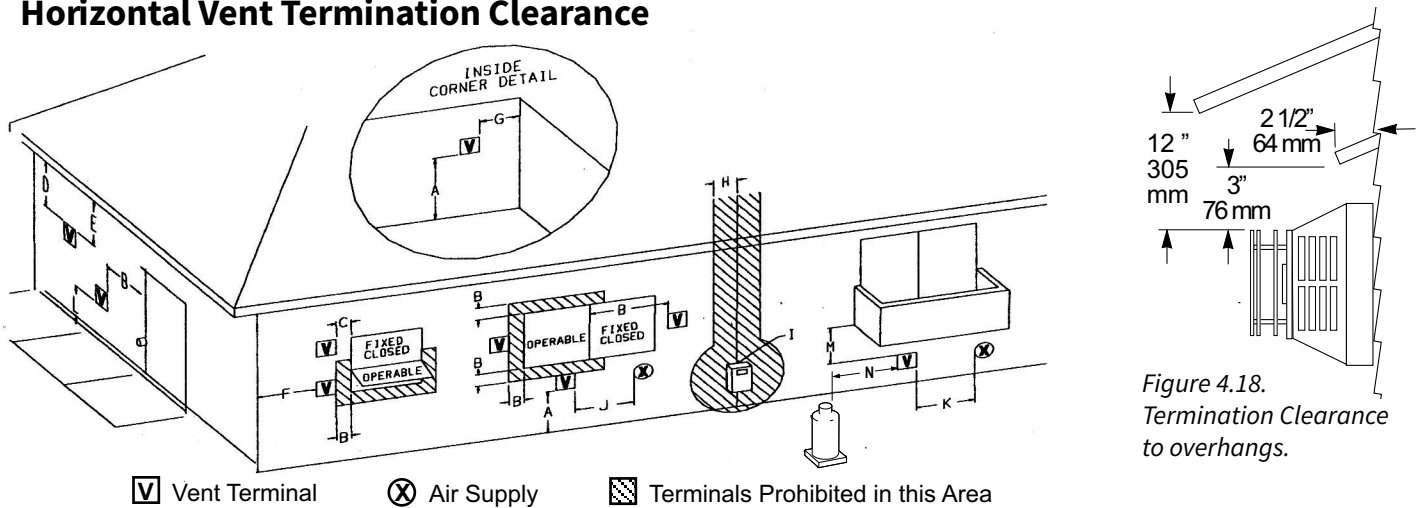

Figure 4.18.
- The horizontal termination cap must maintain a 3" clearance to any overhead combustible projections 2 1/2" or less. It must also maintain 12" clearance from projections exceeding 2 1/2". See fig. 4.18.